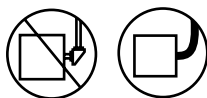

FIG. 1
1. Use flat blade screwdriver, insert into the two slots and pry off front cover from back plate. (Fig. 1)